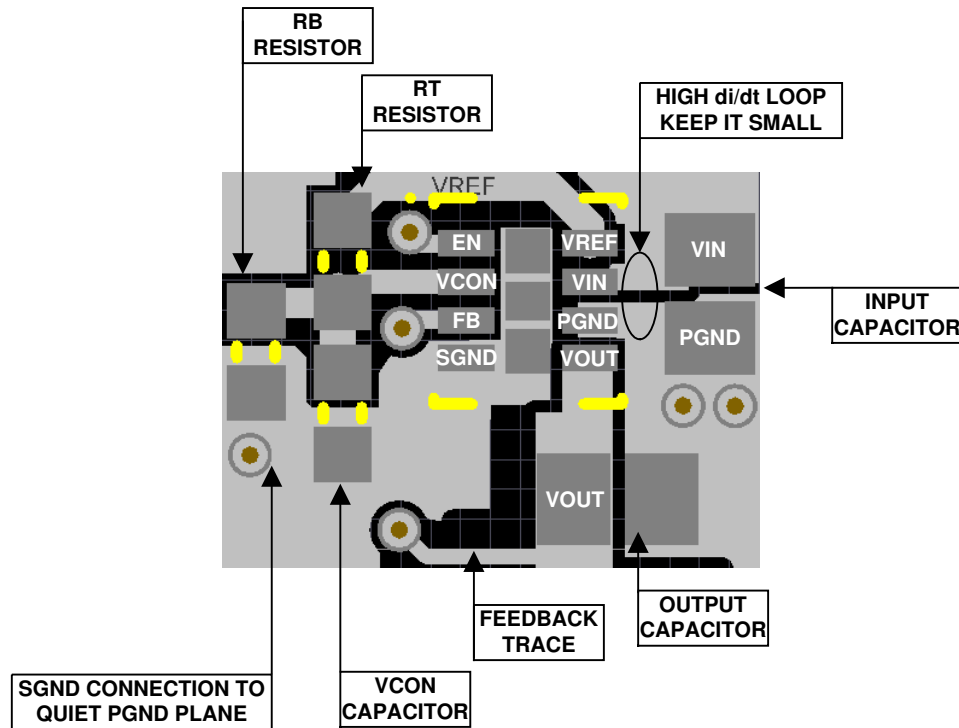

图 8-26. Example Top Layer Board Layout
The LMZ10501 integrates the inductor and simplifies the DC/DC converter board layout. Refer to the example layout in 图 8-26. There are a few basic requirements to achieve a good LMZ10501 layout.
2. Place the V_{CON} filter capacitor C_{VC} and the R_{B} R_{T} resistive divider as close as possible to the V_{CON} and SGND pins. The C_{VC} capacitor (not R_{B}) must be the component closer to the V_{CON} pin, as shown in 图 8-26. This allows for better bypass of the control voltage set at V_{CON} .